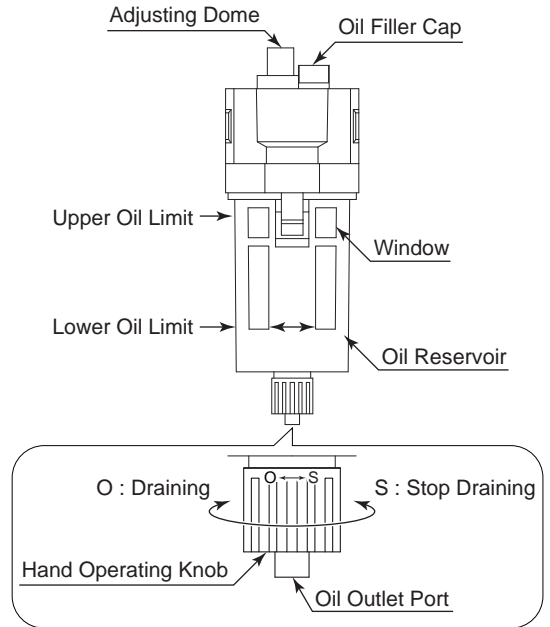

Fig. 4
8 - 4 Lubricator (Fig. 4)
(1) Oil Amount (Fig. 4)
If the Lubricating Oil level is low, add additional oil (Supply Lubricating Oil to Upper Oil Level Limit of Fig. 4).
(2) Replacing the Lubricating Oil and draining the water in the Lubricating Oil (Fig. 4)